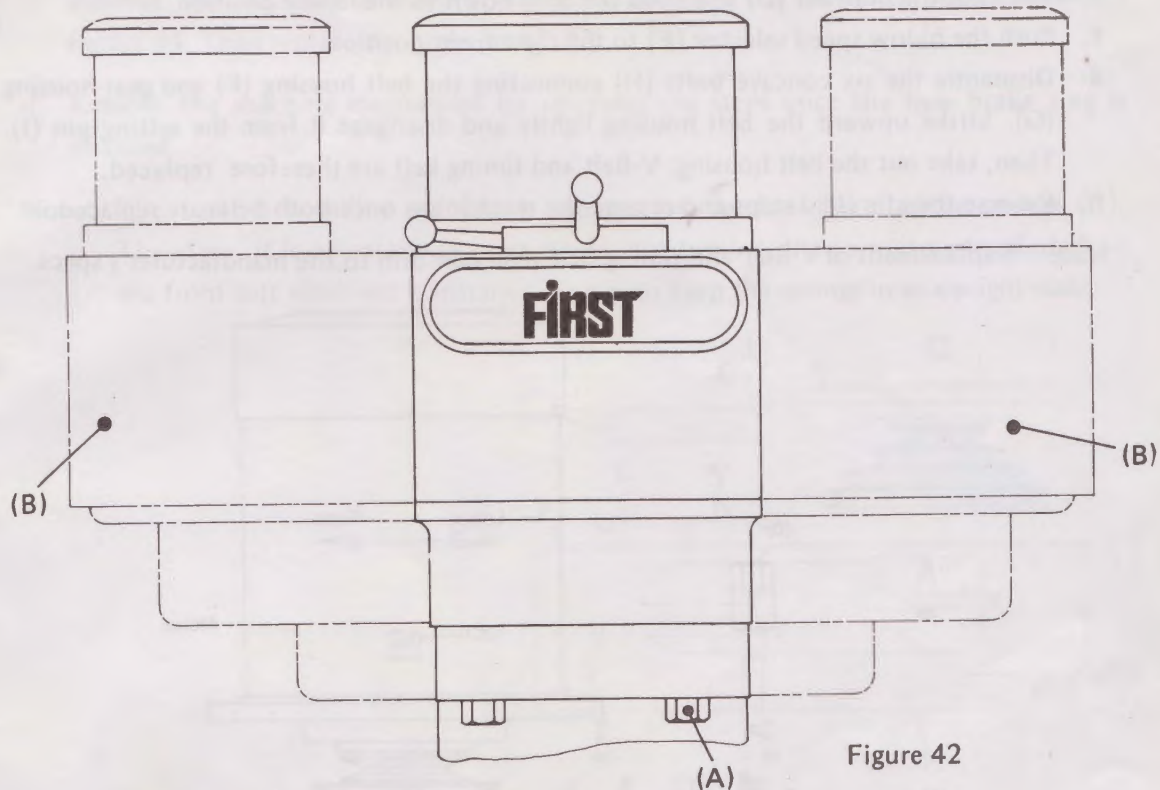

Figure 42
Machine head and gear housing are set by three T-Bolts and three nuts. To turn the gear housing, it is necessary to loosen slightly the nut (A) (Vide Figure 42) and exercise the strength on (B) to push it to the angle desired. Then, lock up the three bolts (A) evenly and tightly.